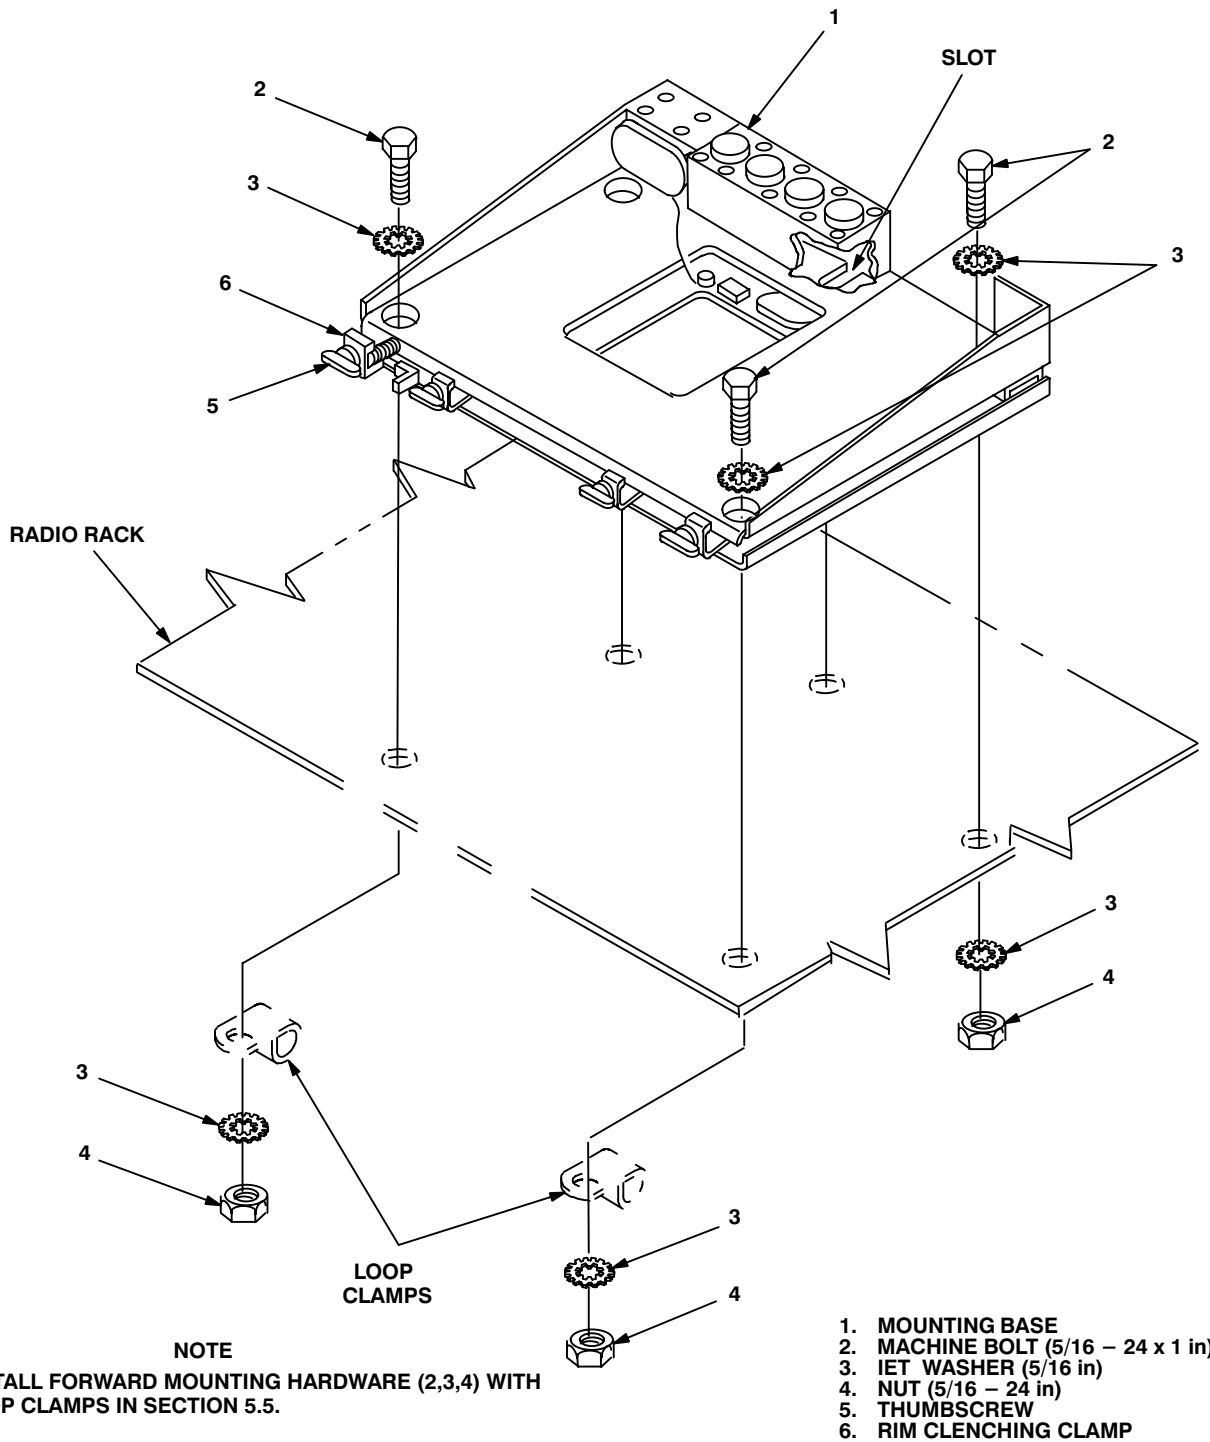

Figure 5-6. Mounting Base Installation
5.4 Installation of Mounting Base, Electrical Equipment MT-6352/VRC (mounting base). Remove and retain attaching bag of 5/16 in mounting hardware for installation. To insure good electrical grounding, any rust, corrosion or paint around mounting holes in radio shelf should be removed before installing the mounting base. See figure 5-6 and perform the following steps.